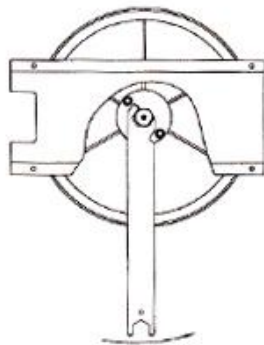
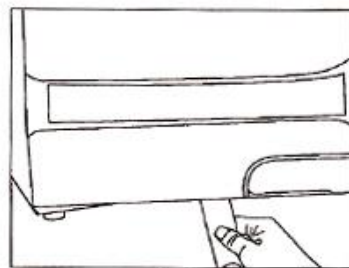

Fig 1
Fig 2
7.5.2 Insert the spanner tool in the gap beneath the plastic cover; use the spanner to grip the adjusting nut (Fig. 1). Turn the nut counter clockwise as the figure below (Fig 2). This will tighten the sealing plate.